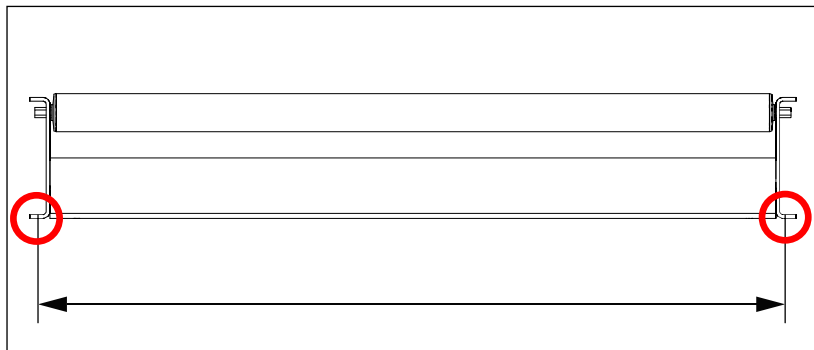

Figure 2-1. Conveyor Channel Measurement Points
2. Measure the distance between the center points of the lower conveyor channels. See Figure 2-1 for the center points marked along the conveyor channels.